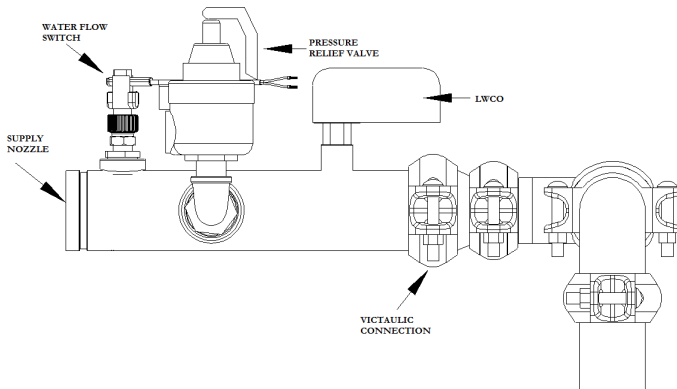

Figure 13: Factory Supplied Manifold
1. **Safety Relief Valve (Required)** -The safety relief valve is shipped loose with the boiler and must be installed in the location shown in Figure 13.